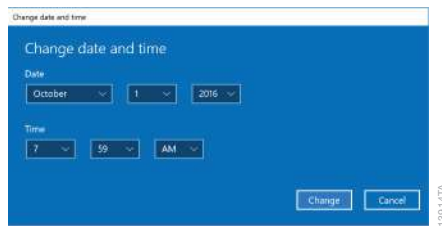

Figure 124. Adjusting date and time. Use the drop-down menus on the ‘Change date and time’ screen to adjust the displayed date and time on the Tablet PC.
- h. On the ‘Change date and time’ screen (Figure 124), use the drop-down boxes to select the appropriate date and time for your location.